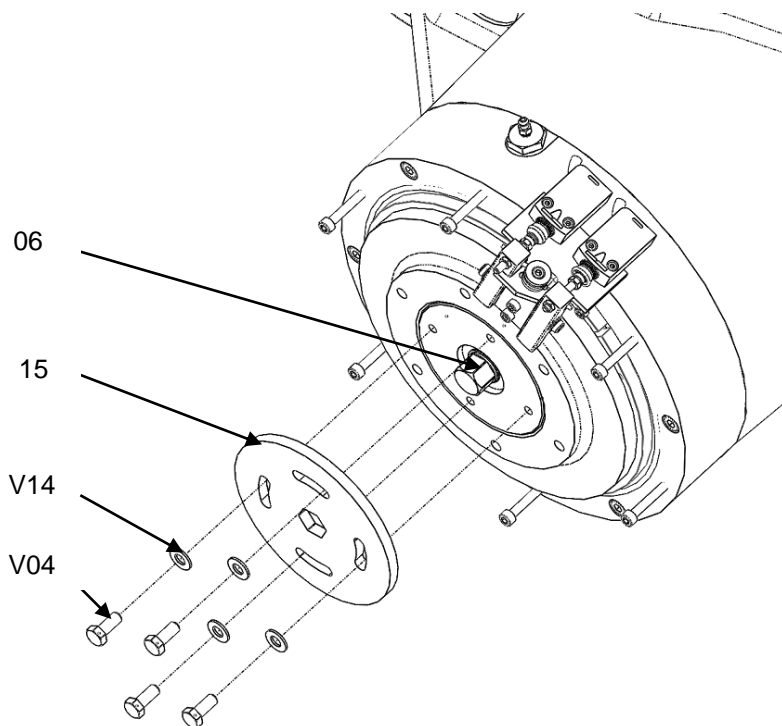

Fig. 5.4
2. For an easier handling, it is possible to remove the connector of indicator switches Fig. 5.4. Unlock the connector by insert the screwdriver behind the connector and turn it a 1/4 of a turn counter-clockwise and then insert the screwdriver into the slot at the side to release the connector. In 'ATEX' execution, it is not possible to remove the connector see Fig. 5.11
4. Unscrew and remove 2 screws **V04** Allen wrench and 2 washers **V14** Fig.5.4.
5. Remove the locking washer **15** to free the wear take up screw **06** Fig.5.4.
2. Cover being removed, unscrew and remove 2 screws **V04** and 2 washers **V14** Fig. 5.4 see chapter 5.3